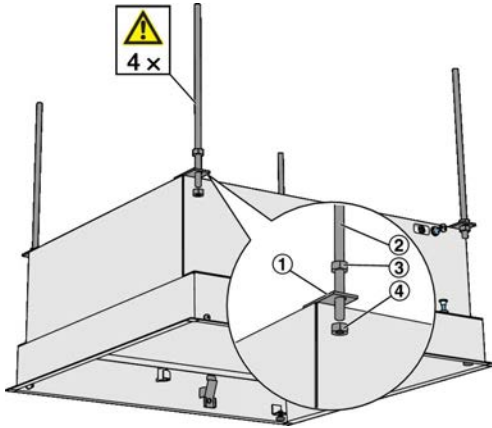

Fig. 2: Fixing
1. ▶ Fix any suspension elements, e.g. threaded rods (Fig. 2/2), to the ceiling.
2. ▶ Start by suspending the TFP casing on three suspension lugs (Fig. 2/1); ensure that the casing is horizontal, fix the nuts accordingly (Fig. 2/4), then use the locknuts (Fig. 2/3) to secure the suspended casing.